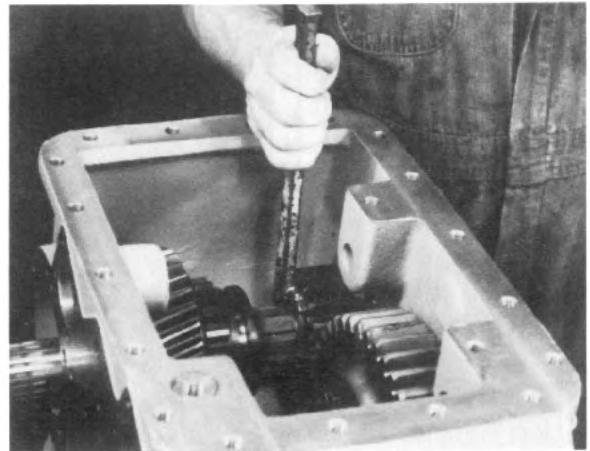

Fig. 31
8. Install the split retaining ring (Item 20) in place in the half round groove that should now be exposed (See Fig. 31).